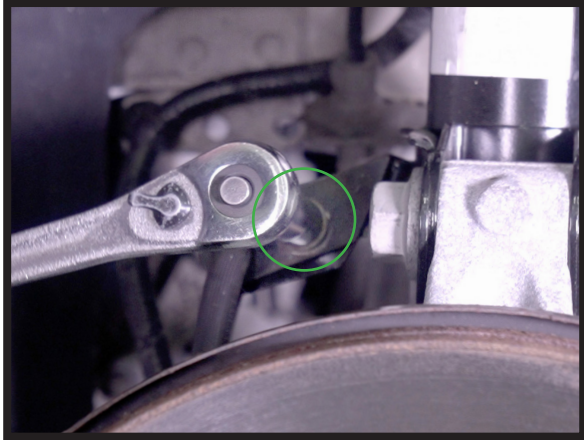

FIGURE 8
5. REMOVE THE BRAKE LINE RETAINER BRACKET BOLT AND DISCONNECT BRACKET. (FIGURES 8, 9)